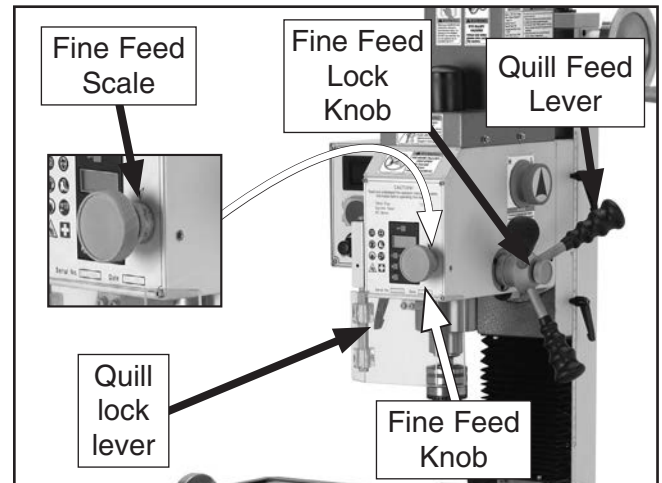

Figure 26. Fine spindle feed controls.
2. Rotate the fine feed knob to lower or raise the spindle in small increments. Observe the scale on the knob or the digital readout to monitor movement in thousandths of an inch (Figure 26).